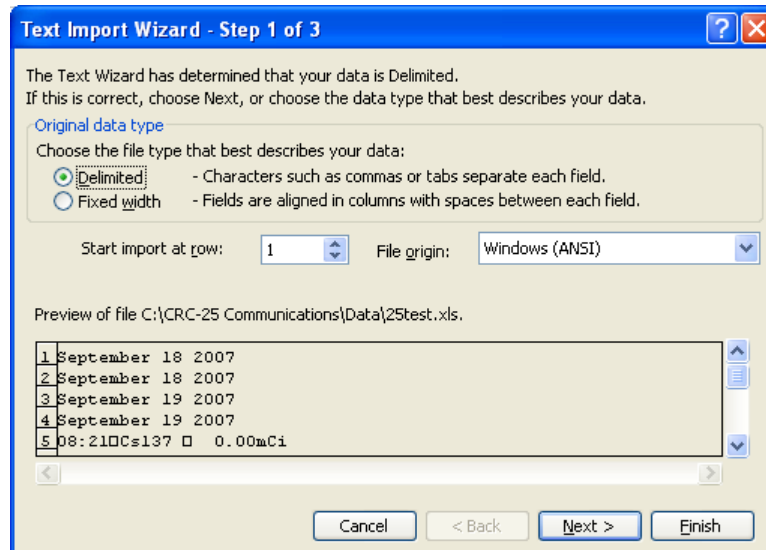

Figure 32
1. Open Excel and select the exported file (25test.xls in the example). Figure 32 will appear.